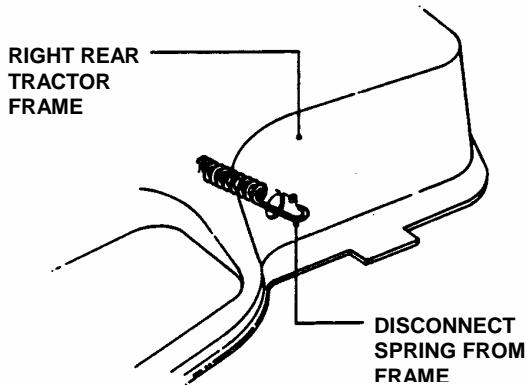

FIGURE 4.27
3. Disconnect traction belt idler pulley spring from tractor frame. See Figure 4.27.